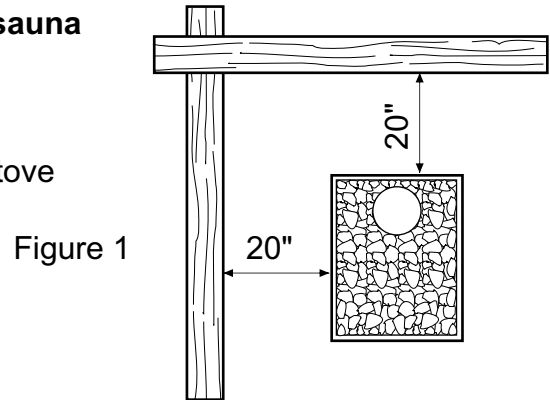

Figure 1
1. Minimum distance between the vertical surfaces of the stove and any unprotected wooden structural element: 20". (Figure 1)